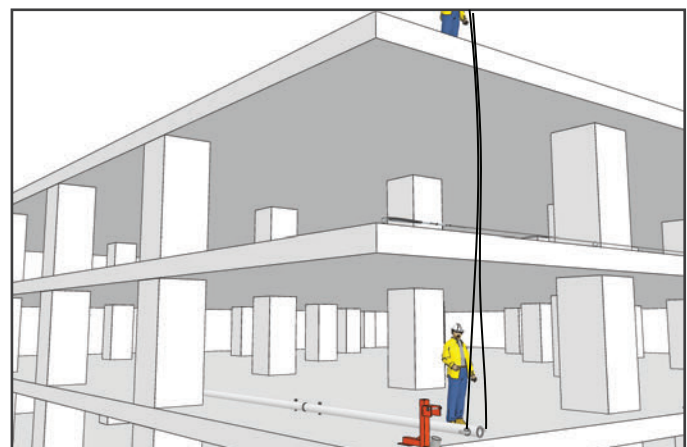

Fig. 9
2. Slowly lift pole into vertical position about bracket and swivel coupler. (see figure 9)